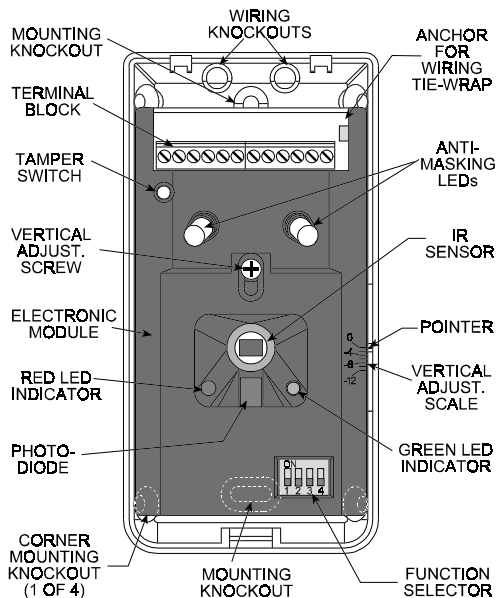

Figure 3. HUNTER as Viewed with Cover Removed
- Mount the base (with the wiring entry knockouts up) in the location and height selected for optimum coverage. For surface mounting, use the two knockouts at the back of the base. For corner mounting, use the knockouts on the angled sides (see Figure 3).
Both HUNTER models are equipped with a 4-position DIP switch function selector (see Fig. 3). Each switch lever allows you to select one of two options, as explained below: